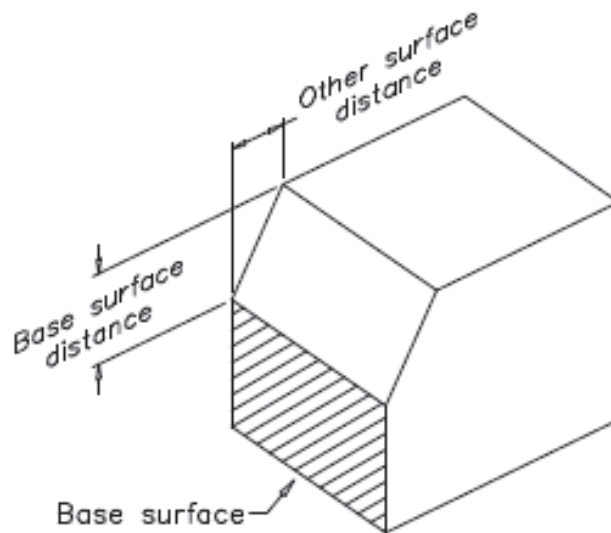

Figure 6–26
- The Base surface chamfer distance is removed from the base surface. The other surface at the edge has the Other surface chamfer distance removed, as shown in Figure 6–26.